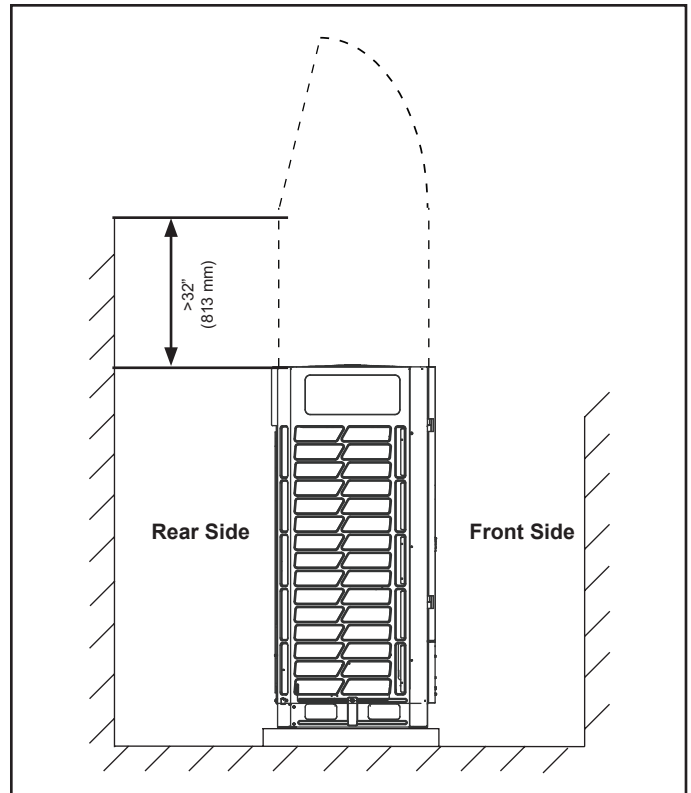

**Figure 2. Maintenance & Service Clearance**
- Allow at least 39 in. (991 mm) clearance in front of the unit for maintenance and service access. The outdoor unit service access is via hinged service doors that swing open in front of the unit. Figure 2.